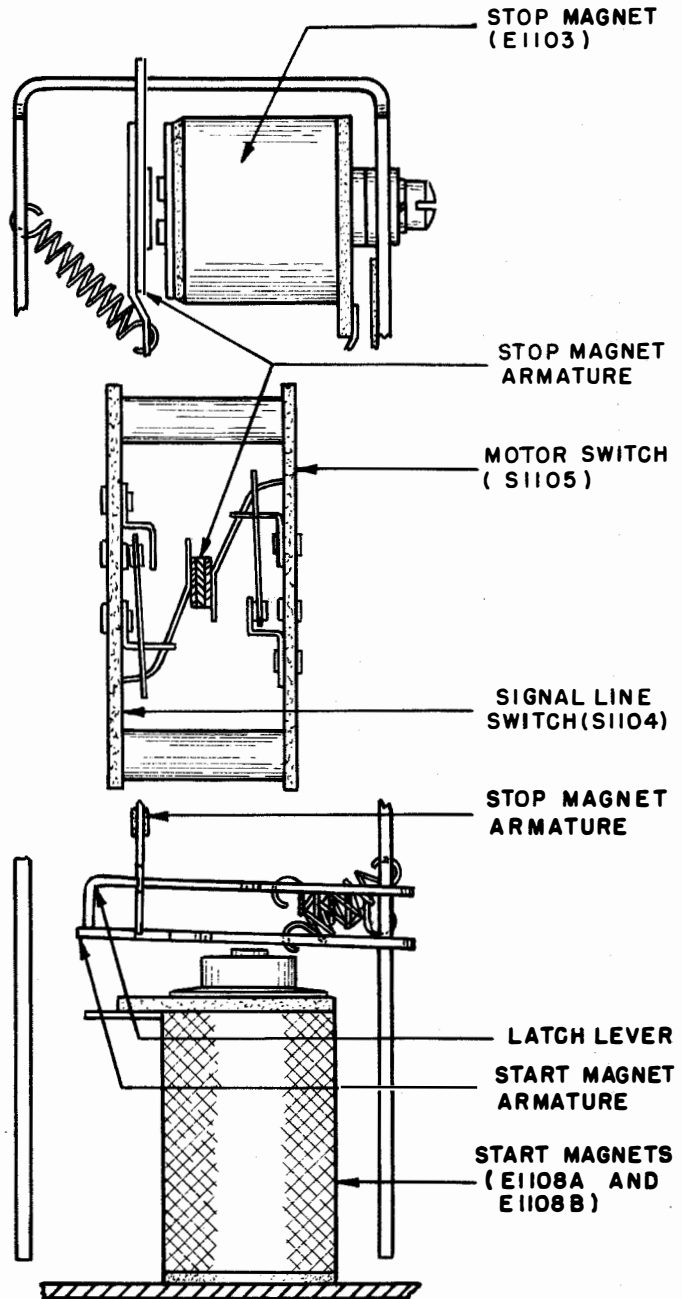

Figure 2-81. Electrical Motor Control Mechanism, Open Line Position
(2) OPEN LINE POSITION. (See figure 2-81.)—In this position, the signal line has just been opened, the start magnet E-1108A and E-1108B have been de-energized, and the start magnet armature has been released. As the start magnet armature moved upward, it carried the latch lever with it. The latch lever released the stop magnet armature which started to swing to the left. However, the stop magnet armature immediately struck the start magnet armature and became blocked. The slight movement of the stop magnet armature was not sufficient to change the positions of the switches S-1104 and S-1105.